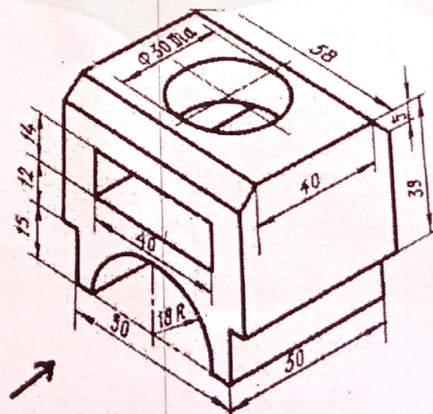

Figure 2
3. Draw the complete orthographic view of the following figure with sectional side view. (figure 2) 30